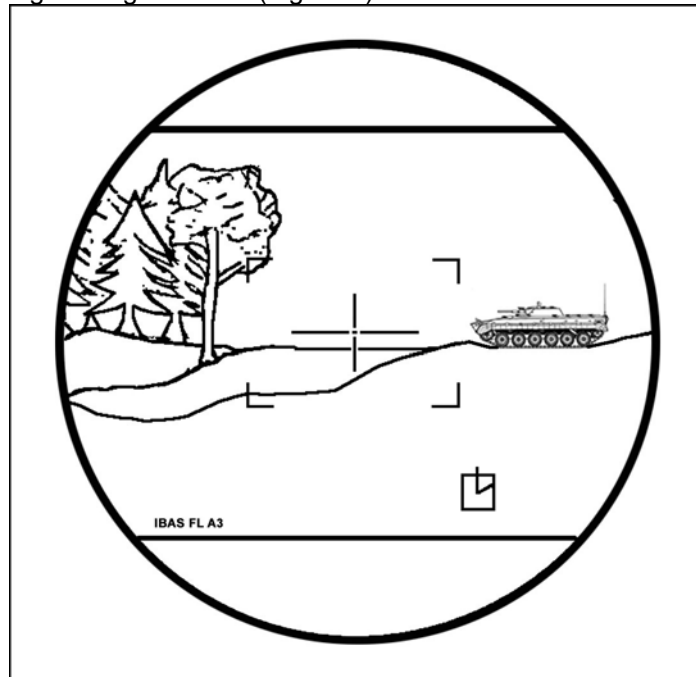

Figure 6. Acquire target.
- a. Acquire the target using the IBAS (Figure 6).